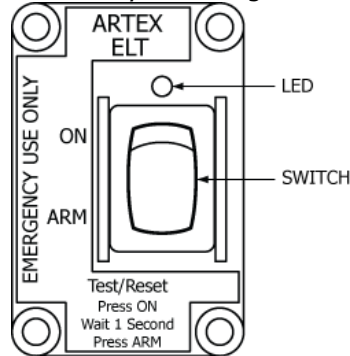

Figure 3 Cockpit Remote Switch
- 2) The cockpit-mounted remote switch assembly is comprised of an ELT status LED and control switch, which allows an operator to monitor ELT status and manually turn on the ELT (i.e., activating) for testing and resetting (i.e., deactivating) the ELT. See Figure 3 Cockpit Remote Switch.